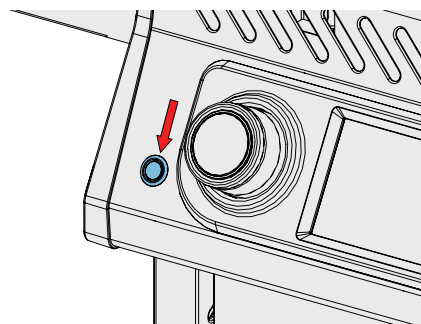

Fig. 5
1. Ensure your appliance is turned on. (Fig 5)